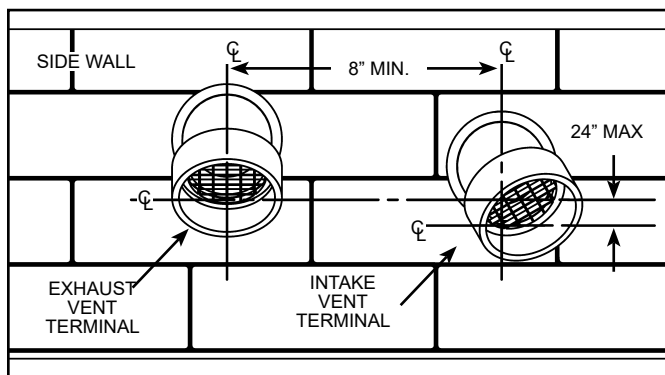

Figure 20.
Important: When terminating the vent on a side wall, the following specifications pertaining to terminal location must be followed (see Figure 20).
4. To avoid exhaust recirculation, the air intake terminal may be rotated away from the exhaust vent terminal (see Figure 20).